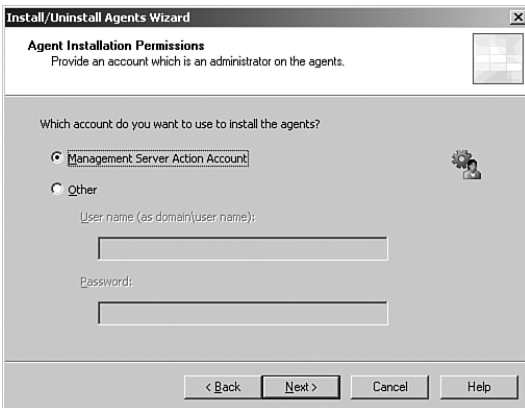

FIGURE 9.3 The Agent Installation Permissions page.
2. Figure 9.3 shows the Agent Installation Permissions page, where you can specify the Management Server Action Account or give another domain\user name and password with local administrative-level permissions on the remote computer.